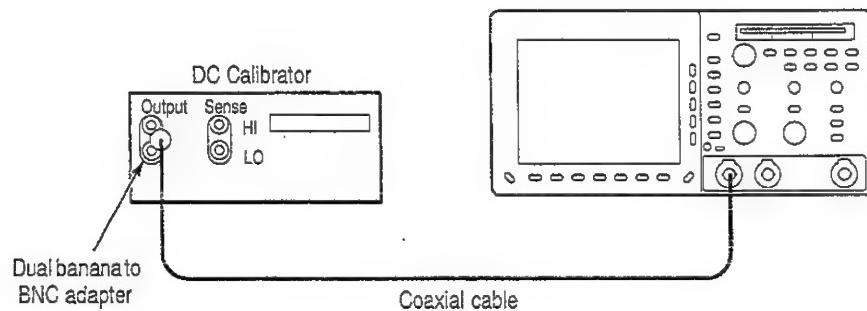

Figure B-2: Hookup for DC voltage measurement accuracy check
2. Connect the output of a DC calibration generator through a dual-banana connector followed by a 50Ω precision coaxial cable to **CH 1**, as shown in Figure B-2.